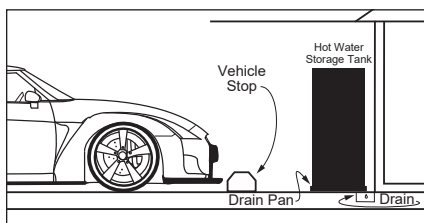

Figure 8 - In a garage, install a vehicle stop to avoid damage to the hot water storage tank.
▲ WARNING! Even though the hot water storage tank is provided with a thermostatic mixing valve to be installed at the tank, hot water can scald. Install Thermostatic Mixing Valves at each point-of-use to reduce the risk of scalding (see page 4 and Figure 8).
- The location is not prone to physical damage by vehicles, flooding, or other risks (Figure 8).